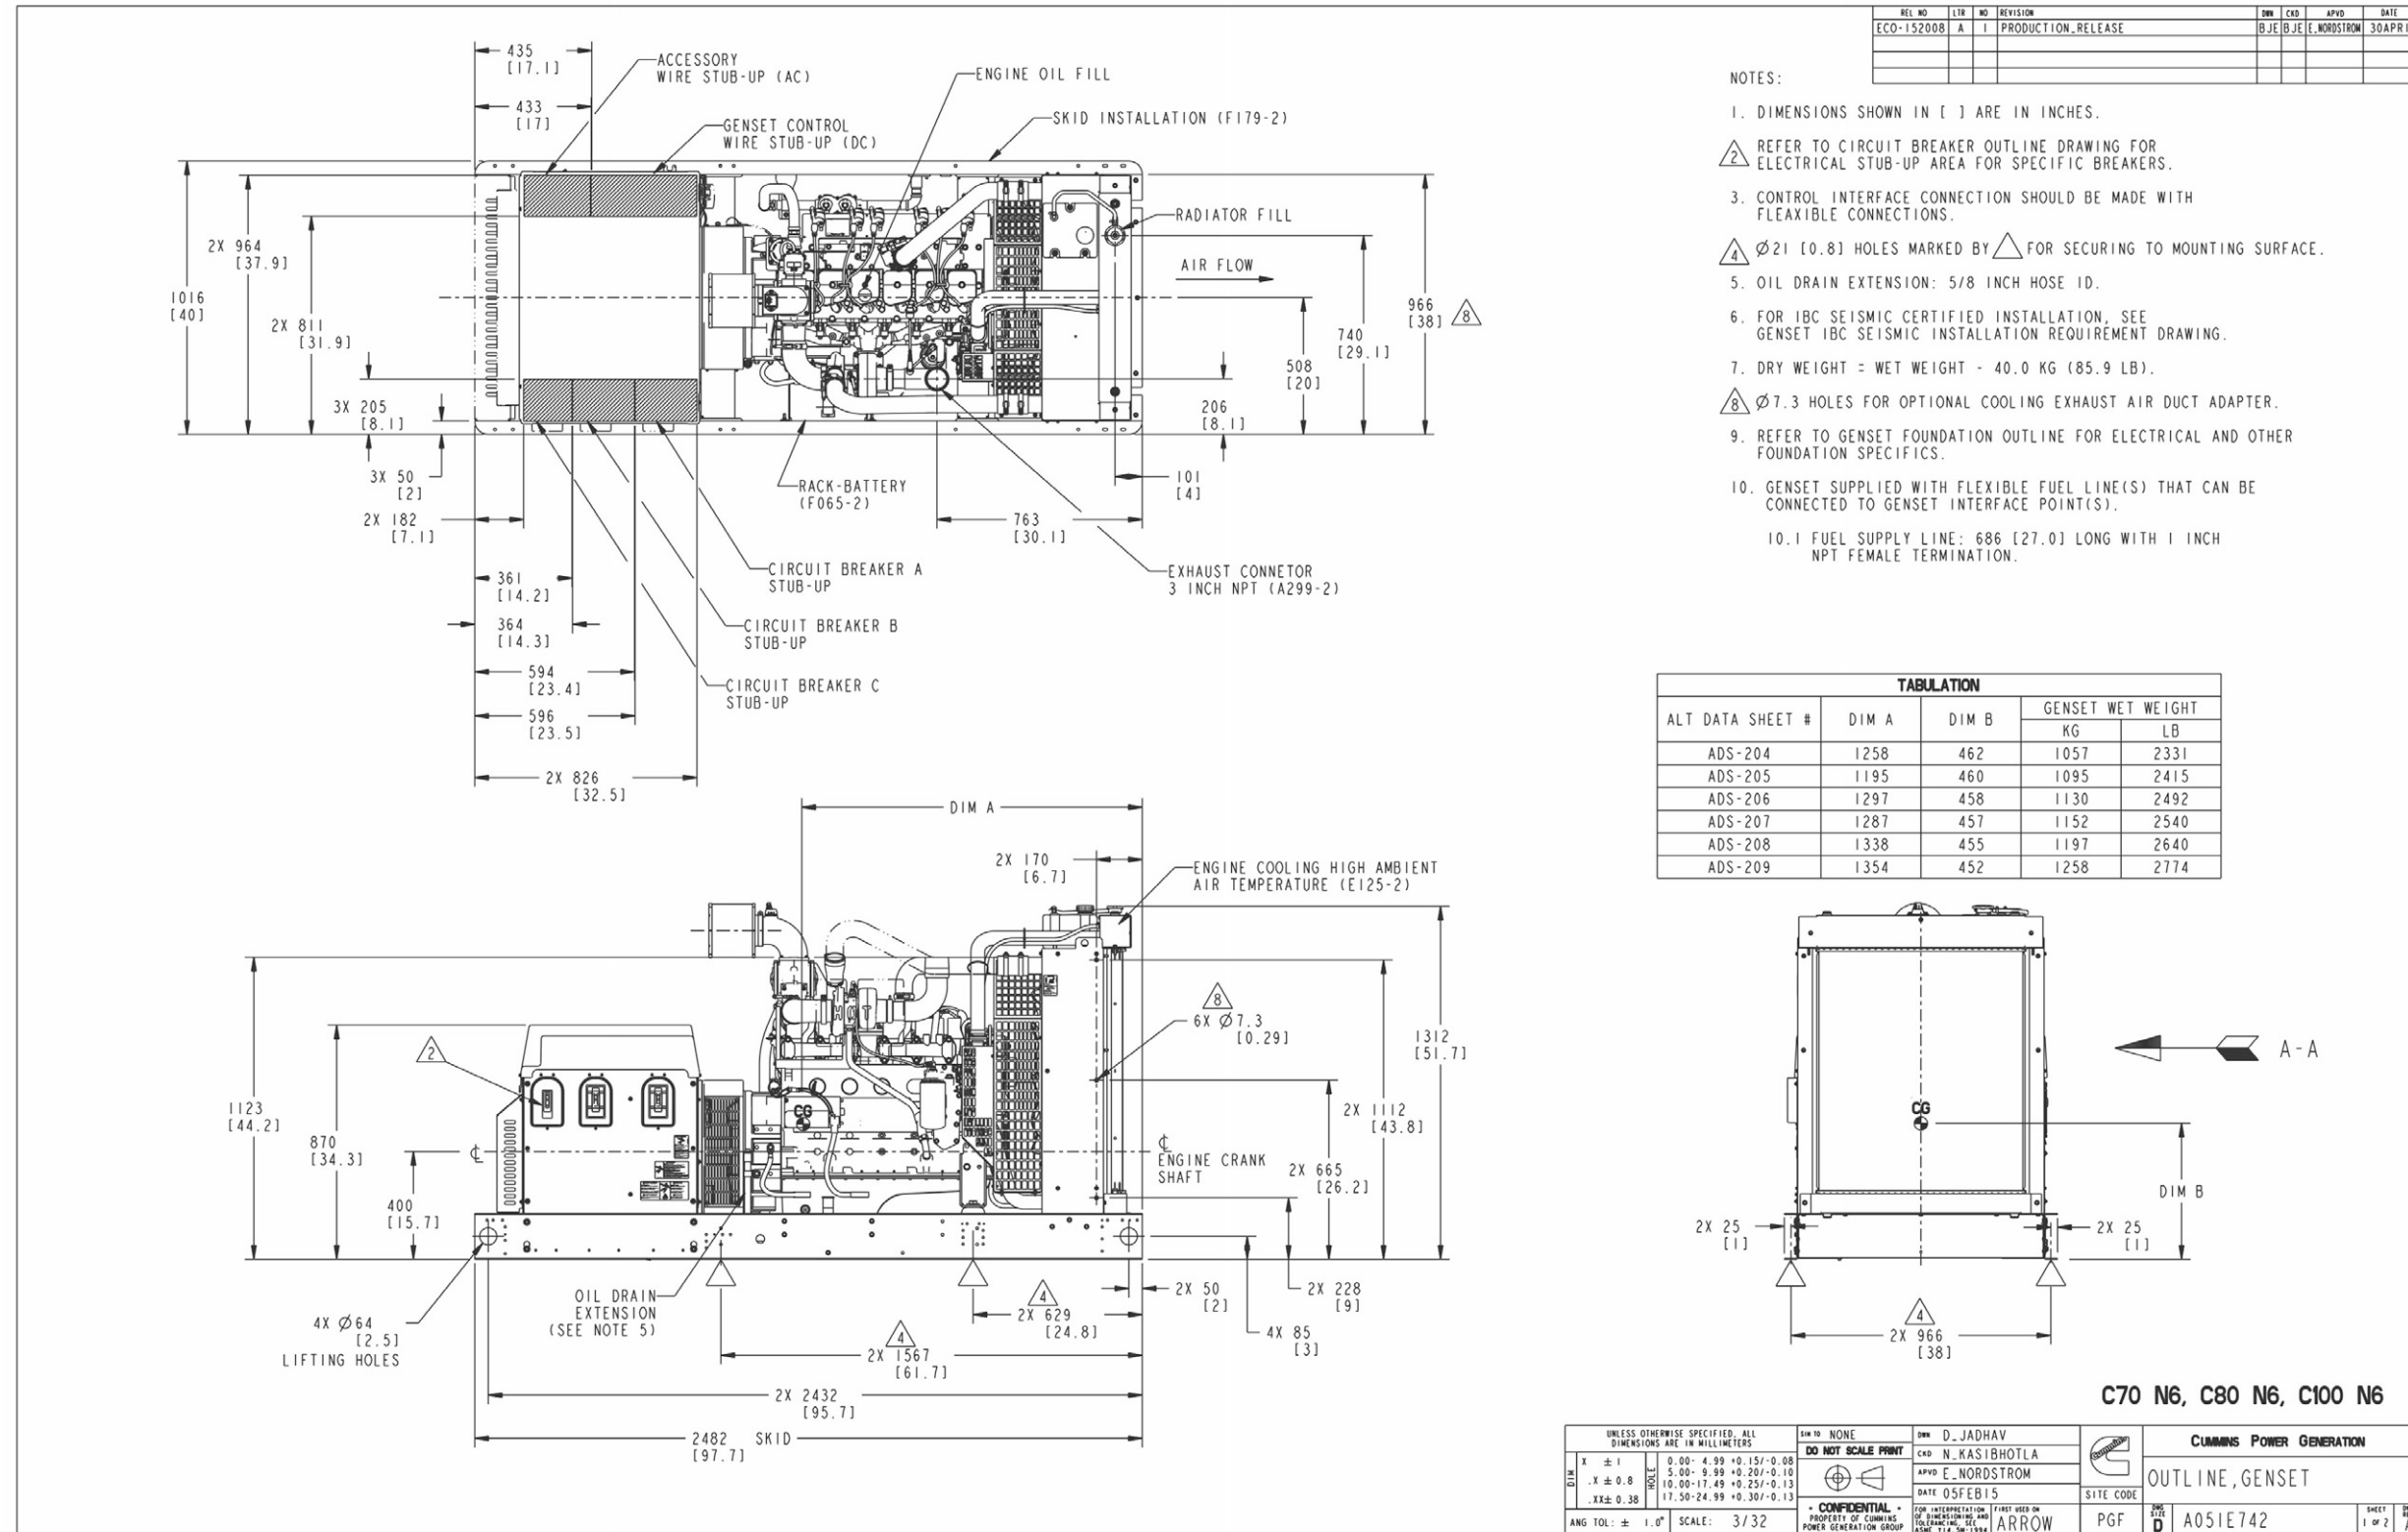

FIGURE 37. GENERATOR SET OUTLINE, 70-100 KW (SHEET 1 OF 2)
- Figure 37. Generator Set Outline, 70-100 kW (Sheet 1 of 2) 109